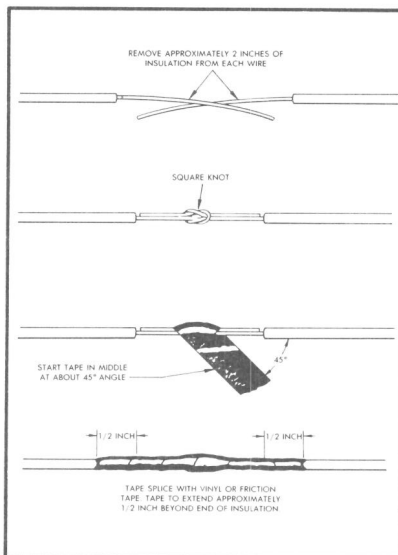

FIGURE 6. Repairing Broken Cord
7.03 To splice broken cords (Figure 6):